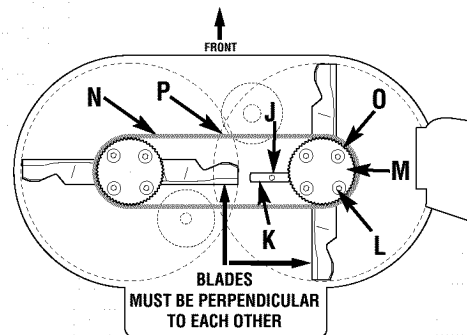

Figure 5-6: Blade Spindle Belt.
**3. Align sight holes (O, Figure 5-6) in pulley with spindle housing-to-mower deck mounting bolts (L).**
**4. Loosen screw (J) and rotate arm (K) to the rear.**
**5. Loosen four mounting bolts (L) securing spindle housing (beneath mower deck) to mower deck.**
**7. Replace belt (N) with new belt.**
**8. Rotate arm (K) to move spindle housing and apply tension to belt. Belt cogs and pulley grooves must mesh together. When applying moderate finger tension (8-12 lbs.), belt should deflect approximately 1/2" (12.7 mm) at (P), midpoint of deck.**
**9. Tighten bolts (L) to 15 ft.-lbs. (20.3 Nm). Tighten screw (J).**